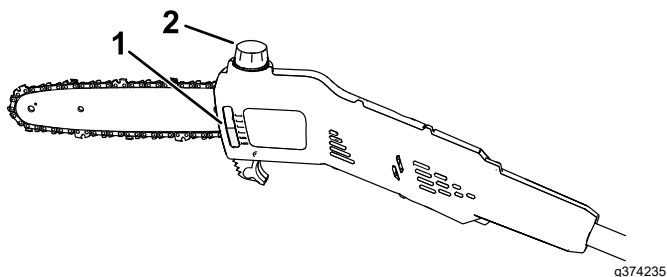

Figure 15
2. Check the oil level in the window. If the oil does not fill the window, add bar and chain oil as needed (Figure 15).
4. Clean the area around the oil cap (Figure 15).
5. Remove the cap, and pour bar and chain oil into the pole saw until the oil fills the tank (Figure 15).